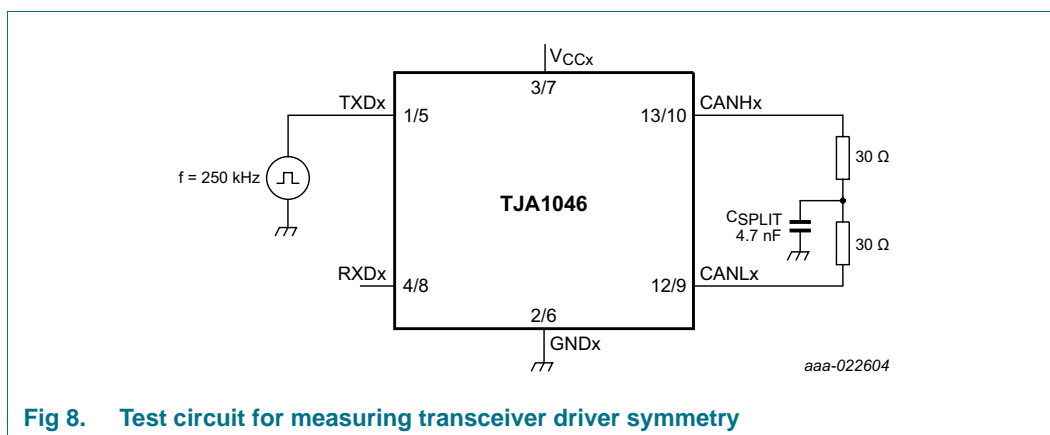

Fig 8. Test circuit for measuring transceiver driver symmetry
- [3] The test circuit used to measure the bus output voltage symmetry (which includes C_{SPLIT}) is shown in Figure 8.